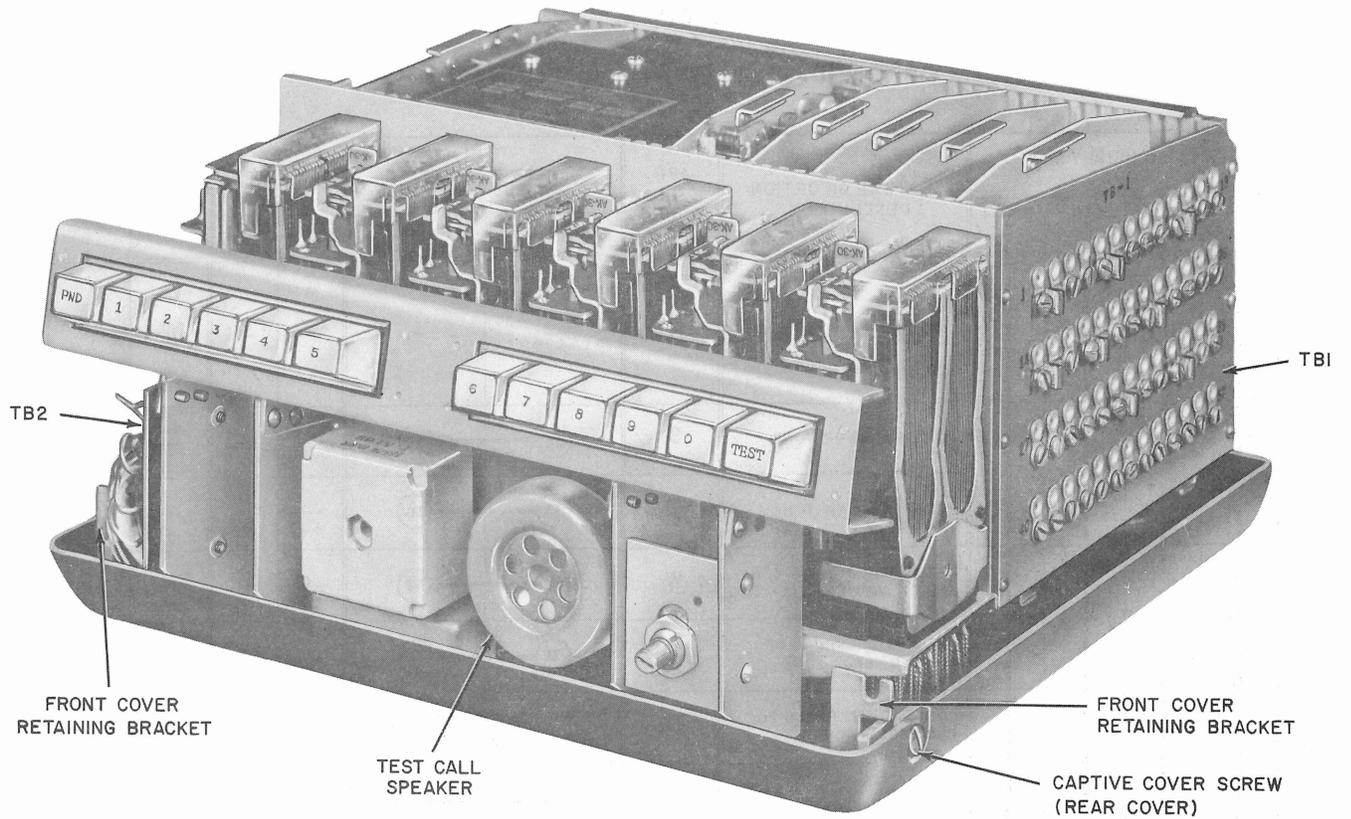

Fig. 4—Data Auxiliary 801A-Type (Front View)
3.01 ACU options must be specified on the service order. Refer to Fig. 4 for the location of